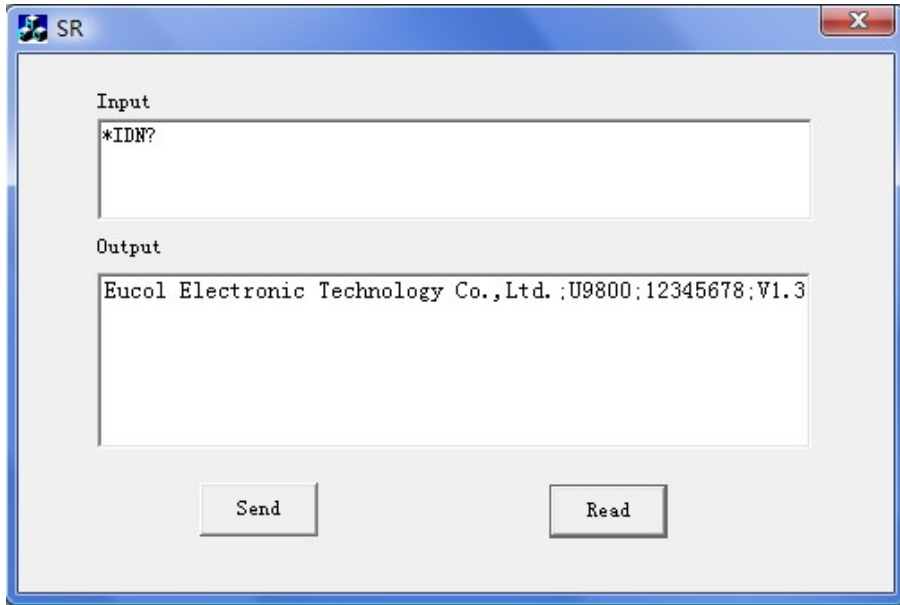

Figure 4-1-7
7. Save, build and run the project, you will get an EXE file. When the oscilloscope has been successfully connected with PC, input a command such as *IDN? (the default input command) in Input edit box and click Send and Read successively, the oscilloscope will return the result which will be displayed in Output edit box. See figure 4-1-7.